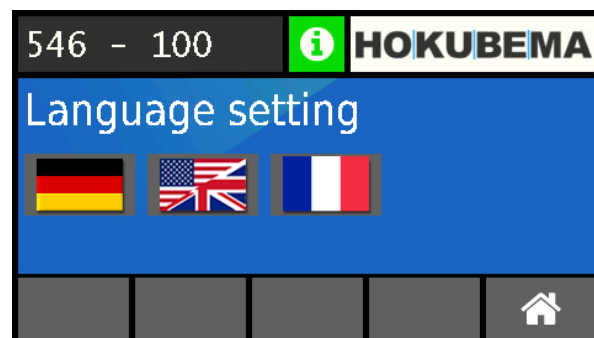

Figure 50: Language menu
- Tapping the flag symbol at the bottom left opens the language menu (see ⇒ Figure 50). The desired menu language can be chosen here.